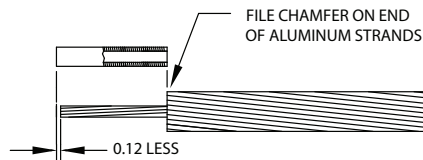

Fig. 2
2. Cut back the aluminum strands on end of conductor a distance equal to the length of the "Inner - Half Sleeve," less 0.12 inches. Use a cable trimming tool. Use tape or tie wire to temporarily retain the conductor's strands in a tight configuration during strand removal. See Fig. 2.